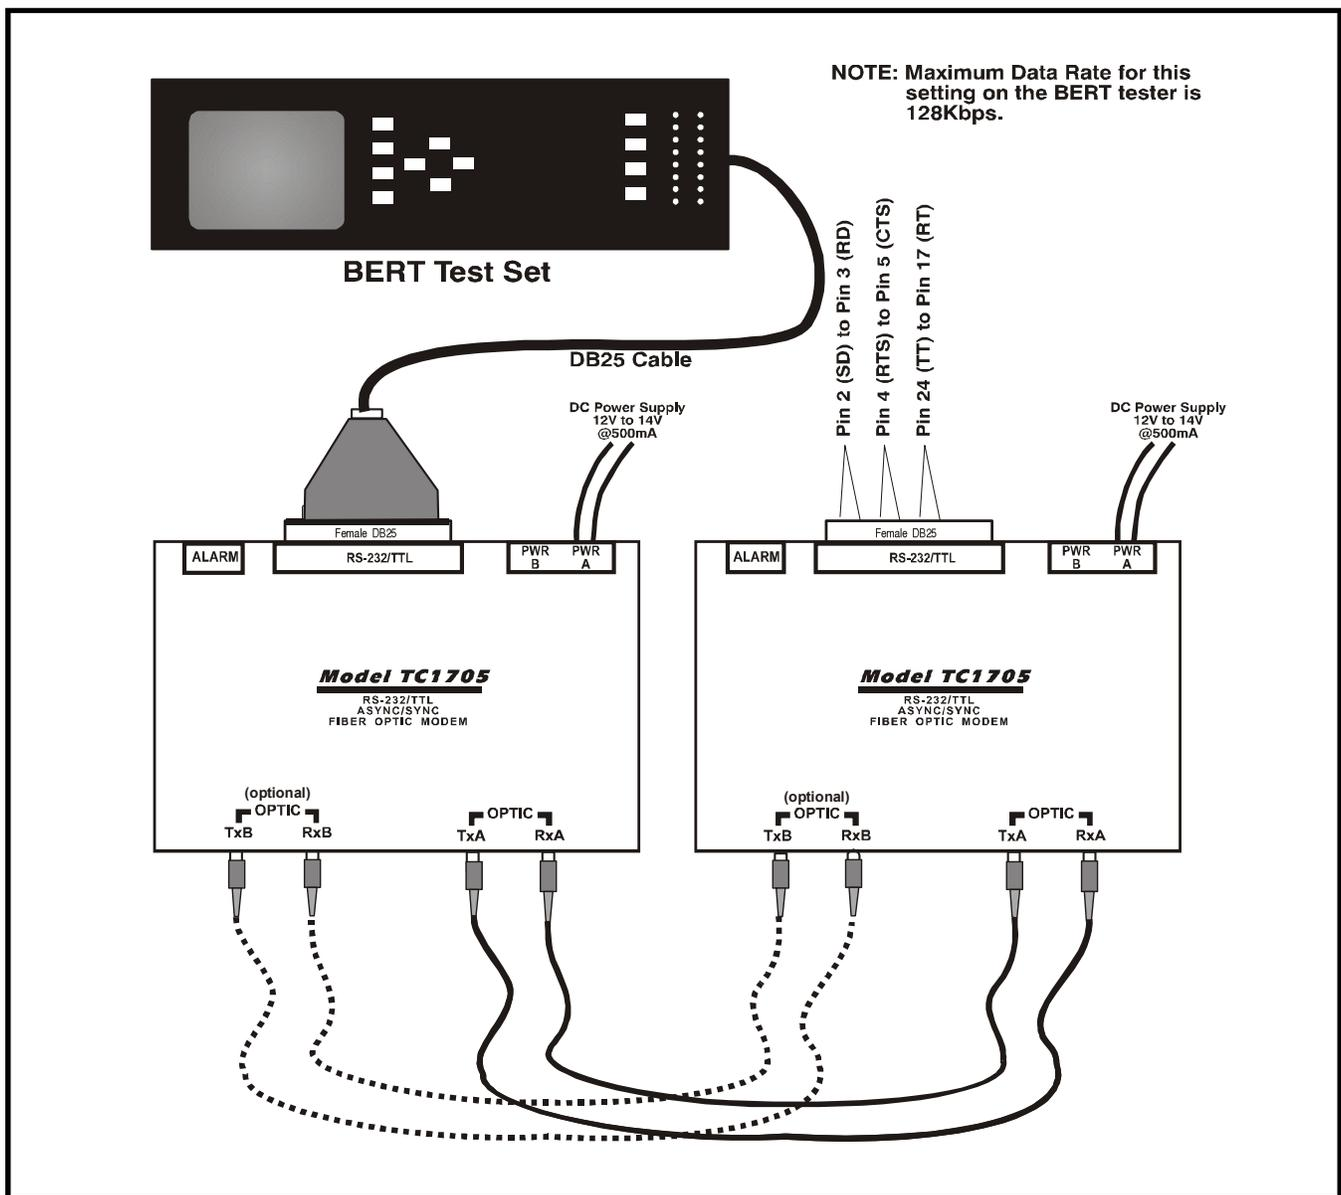

Figure 8. Remote Optic Loopback Test Connection Diagram
2. Set up the bench test as illustrated in Figure 8 on the following page.